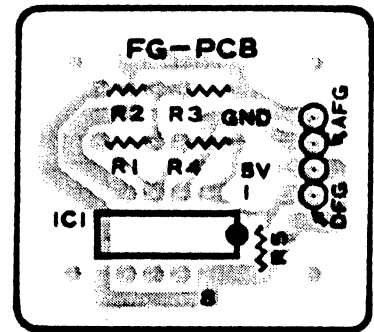

Fig. 2-11 Part Layout on FG PCB
① XADJ... This switch is used for Radial Alignment Adjustment. (Refer to 5-1)
(3) Part Layout and Circuit Diagram on FG PCB. (Refer to Fig. 2-11, 2-12)